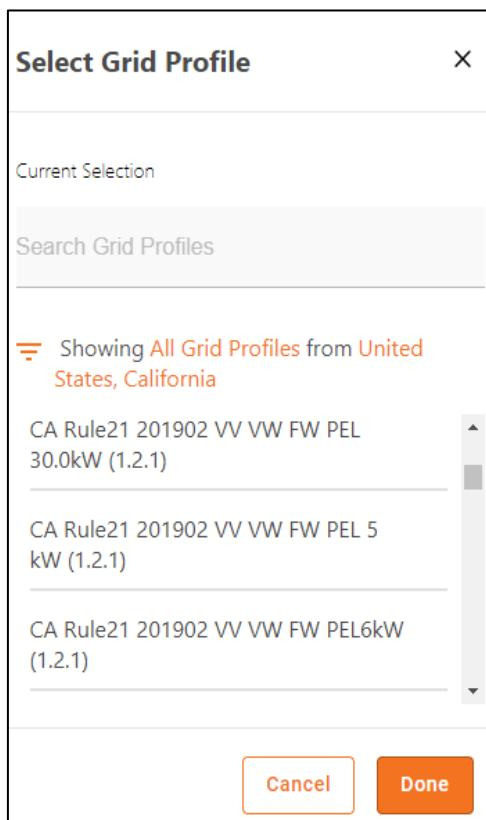

Figure 5: Grid profile - Enphase Installer Platform
**NOTE:** This configuration can be done on both the Enphase Installer App and through the Enphase Installer Platform (Refer to figure 5).